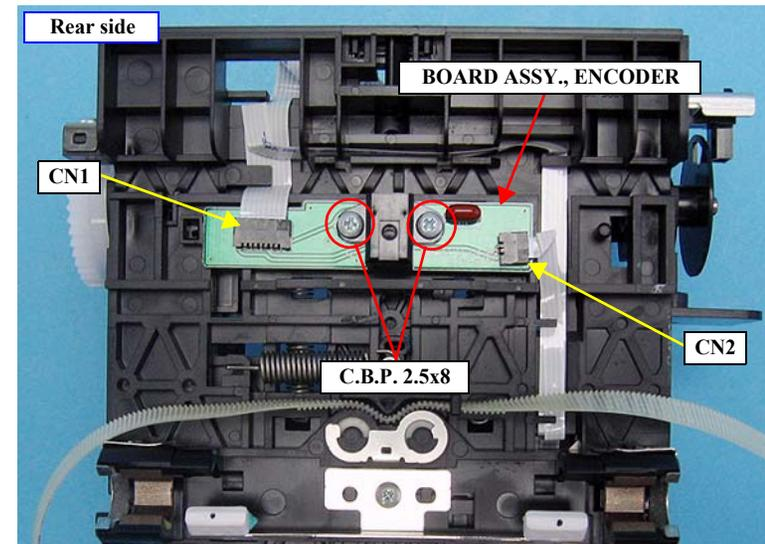

Figure 4-141. Removing the BOARD ASSY., ENCODER
3. Remove the all FFCs on the BOARD ASSY., ENCODER. See Figure 4-141.
4. Remove the two screws that secure the BOARD ASSY., ENCODER and remove it. See Figure 4-141.